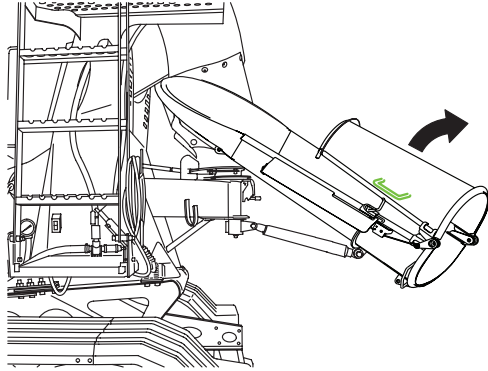

Figure 111
2. Grip the fold-over chute using the correct hand-holds (Figure 111).